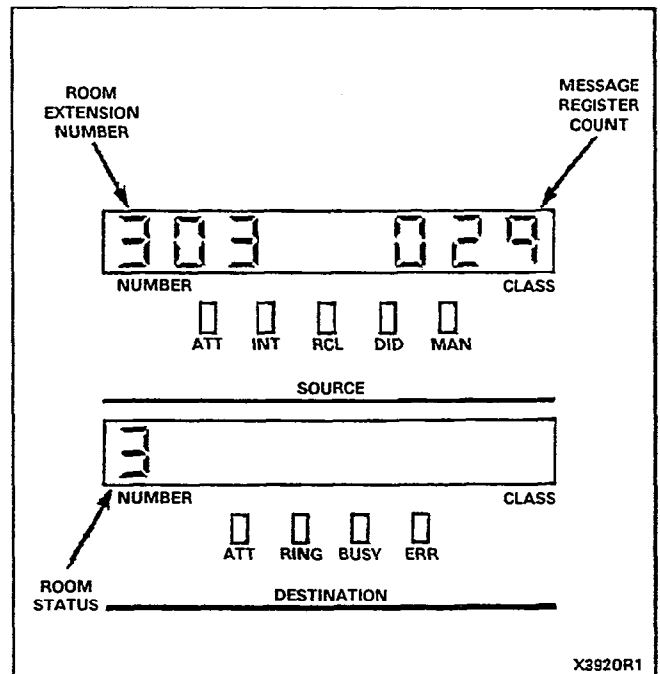

Figure 5-1 Typical Status Display
number. Figure 5-1 shows a typical room display with status "3", indicating that the room is vacant but requires cleaning. If a period (.) appears after the status code, it indicates that a maid is currently in the room. Having pressed the GUEST ROOM button and dialed a room number, the attendant can update the room status by dialing a special code (see Table 5-1). This also provides the attendant with a view of a room's status when viewing the Room Status field, after pressing the GUEST ROOM button and dialing an extension.
- (f) Message Registration can be provided for each room. This feature keeps count of all local calls made from a room. Flexible charging allows the Message Register to be tailored to an individual hotel's needs. By pressing the GUEST ROOM button and entering the room number, the room number and message "count" is displayed in the SOURCE display. The "count" can be read on checkout for charging purposes; then under the same conditions the register is cleared by pressing the "#" button. Figure 5-1 illustrates a typical display of this facility showing the room number (303), the Message Register total (29) and the room status (3 - indicating that the room is vacant but requires cleaning).
- The room number and the "MESSAGE REGISTER" status (see Figure 5-1) in the SOURCE display.
- "ROOM STATUS" indicated by a digit (followed by "." (period) if the maid is in the room) in the DESTINATION display (see Figure 5-1).
Attendant uses GUEST ROOM button and dials room number to obtain a DESTINATION display (see paragraph 5.04 and Figure 5-1); digits 1-4 are shown, with a period (.) if the maid is in the room.